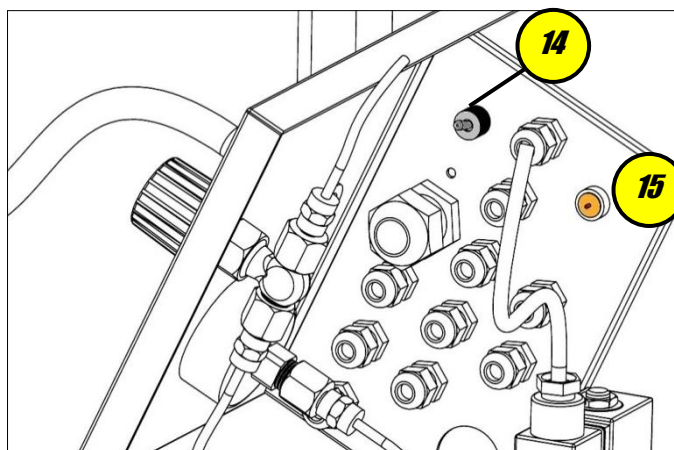

Figure 11
- e. Rotate the knob 1 (fig.01) to  (DO NOT ROTATE TO *START*), then toggle the cleaning program switch to "ON"  14 (fig.11). When the descaling product begins to flow through the steam hose rotate the knob 1 (fig.01) and toggle the cleaning program switch to the OFF position .